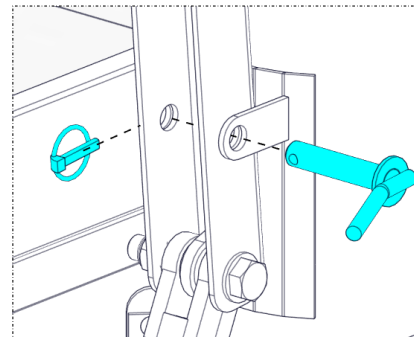

Figure 4.15
- 5) Insert the lock pin and lynch pin to secure the cylinder lock to the auger tube (Figure 4.15).